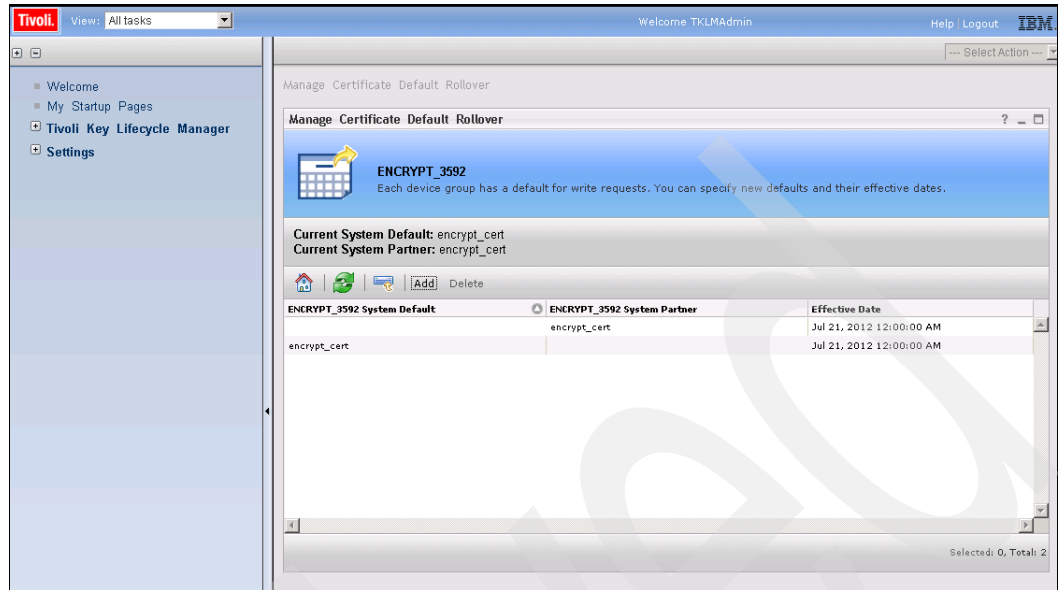

Figure 9-73 Successful certificate rollover scheduled
5. Figure 9-73 shows the successful addition of the 3592 certificate rollover.